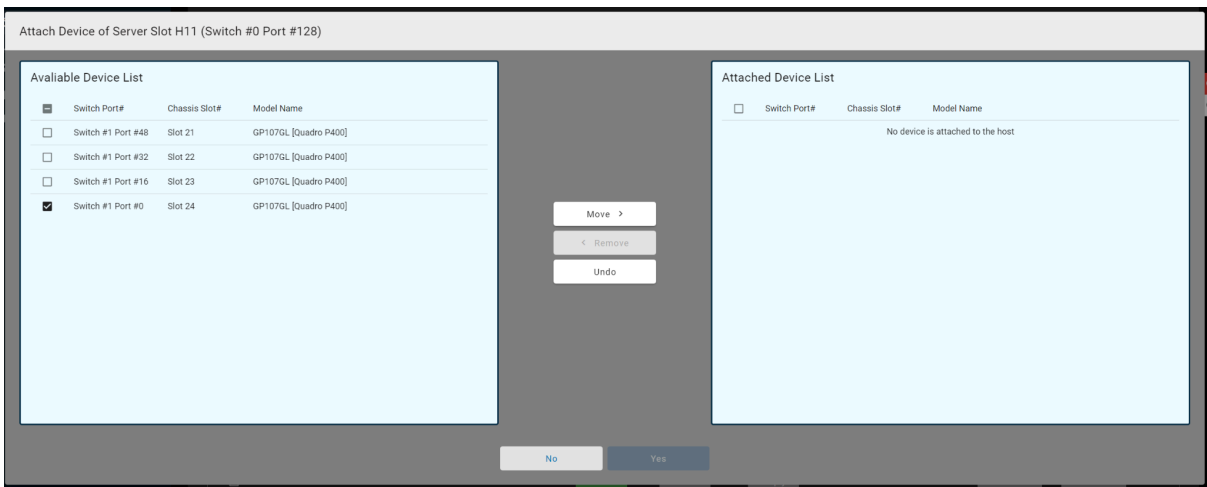

Figure 69. Selecting GPUs from the Available Device List
D. From the displayed GPU list, select the GPUs you want to assign (refer to Figure 69).